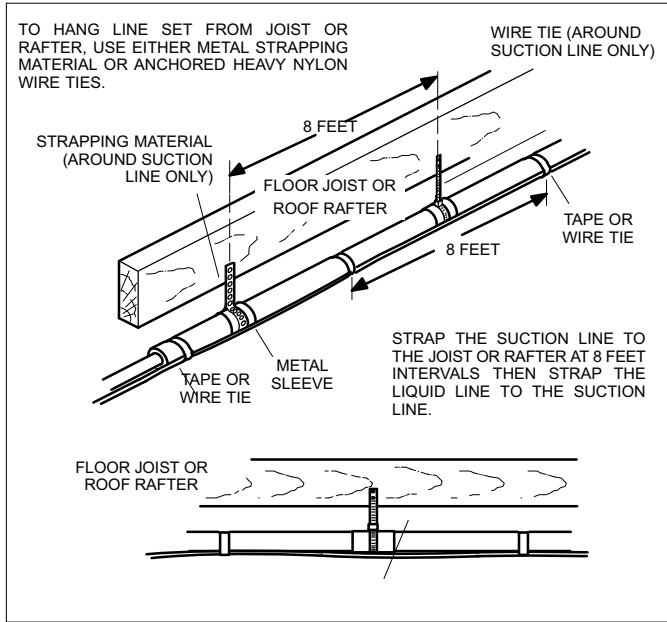

Figure 14. Refrigerant Line Set: Installing Horizontal Runs
- Installation of **line set on horizontal runs** is illustrated in figure 14.